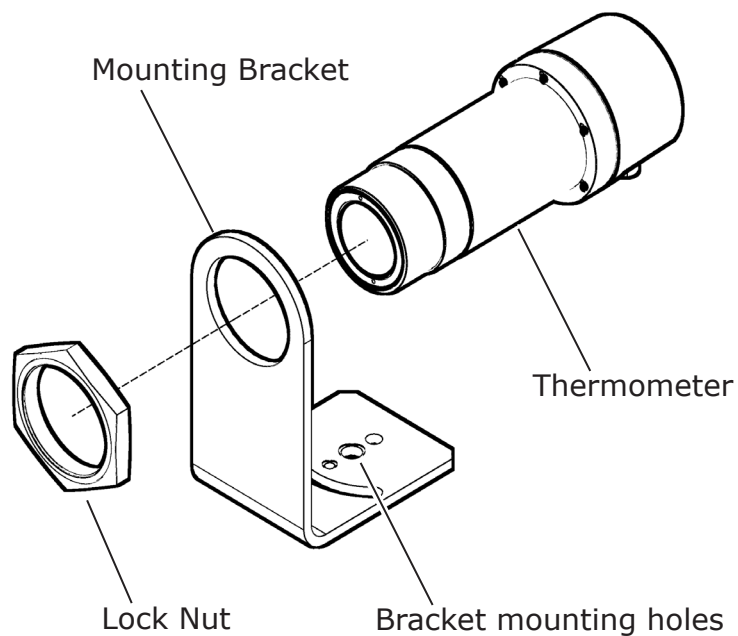

Fig. 1
- 2) Refer to Fig. 1. The Thermometer is secured in the Mounting Bracket via a Lock Nut.